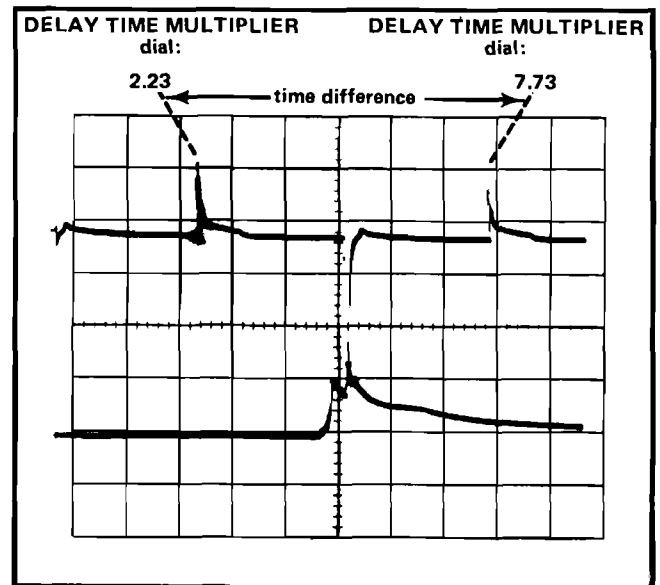

Fig. 2-12. Measuring time difference using delayed sweep.
2. Set the VOLTS/DIV selector to produce a display about three divisions in amplitude (see Fig. 2-12).
Example: Assume the first dial setting is 2.23 and the second dial setting is 7.73 with the TIME/DIV set to 5 μs (see Fig. 2-12).